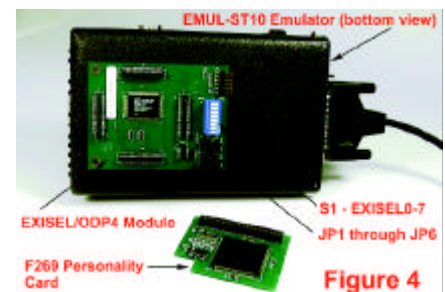

Figure 4
This module plugs between the emulator and the target adapter, if any. Most applications will use an adapter of some type. Figure 4 shows this module installed on the bottom of the emulator. The target adapter will plug into the module using the four 2x50 and the optional 2x5 Samtec connectors. The layout of these connectors is the same as on the bottom of the emulator.
- Install the EXISEL/ODP4 module if desired. See Figure 4.